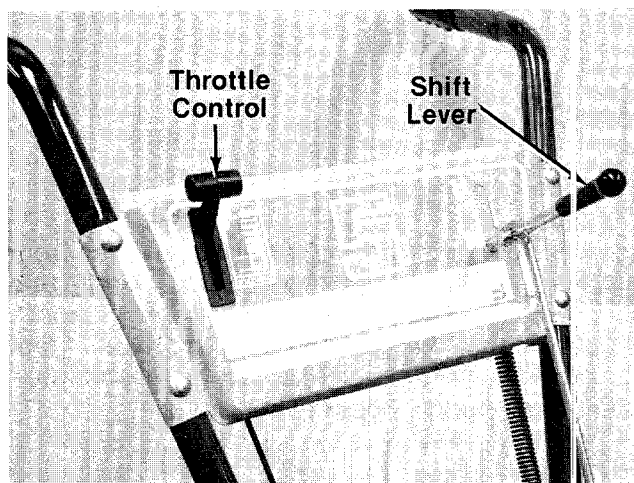

FIGURE 13.
1. Place the shift lever in the neutral (N) position. See figure 13.
3. Move throttle control lever forward to "START" position. See figure 13.
1. Move throttle control lever to "STOP" position. See figure 13.